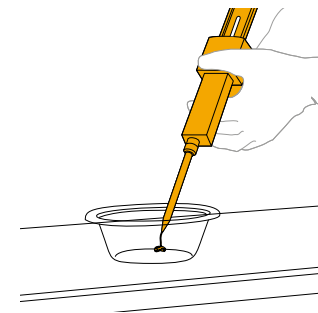

fig. 4
- having obtained the required colour, prepare the applicator supplied in the kit with the resin (fig. 4);